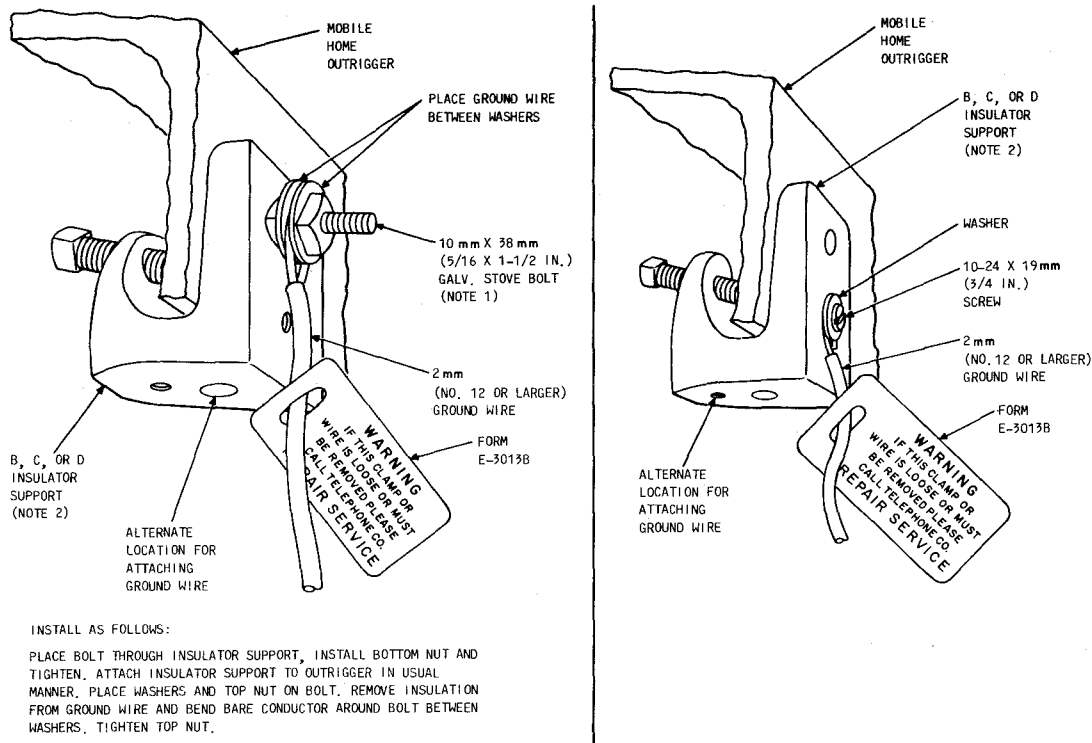

Fig. 6—Bonding to Mobile Home Chassis
5.01 Use No. 12, or larger, ground wire for bonding the mobile home chassis to the protector ground terminal. For convenience, the bond wire can be the same size as the protector ground wire. This will permit the protector ground wire to be looped around the protector ground terminal and extended to the chassis to serve as a continuous bond wire as well. Use a B, C, or D insulator support (Fig. 6) to connect the bond wire to the chassis of the mobile home.